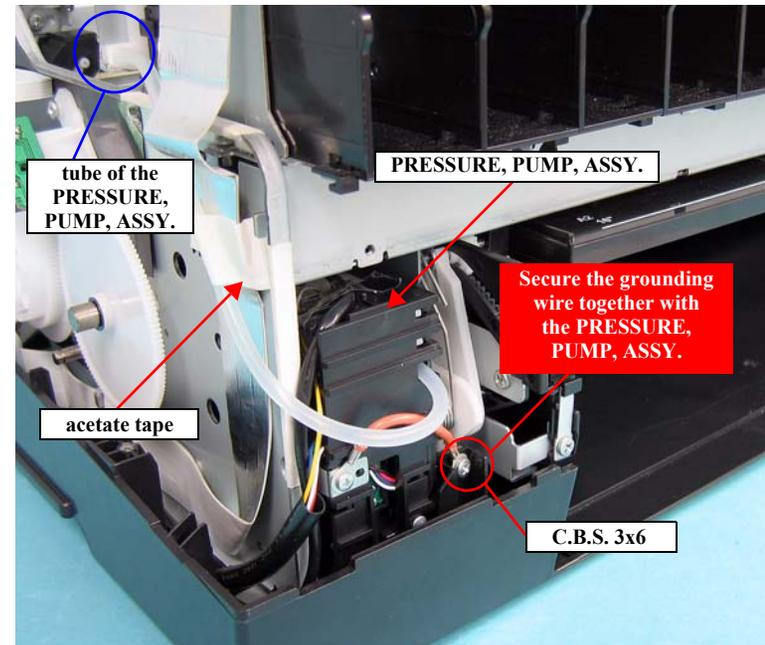

Figure 4-97. Removing the screws from the PRESSURE, PUMP, ASSY.
2. Pull out the tube of the PRESSURE, PUMP, ASSY. from the left side of the FRAME, HOLDER, IC, ASSY. See Figure 4-97.
3. Peel off the acetate tape that secure the tube of the PRESSURE, PUMP, ASSY., and release it. See Figure 4-97.
6. Remove the screw that secures the PRESSURE, PUMP, ASSY. and the grounding wire to the main unit, and remove the PRESSURE, PUMP, ASSY. See Figure 4-97.